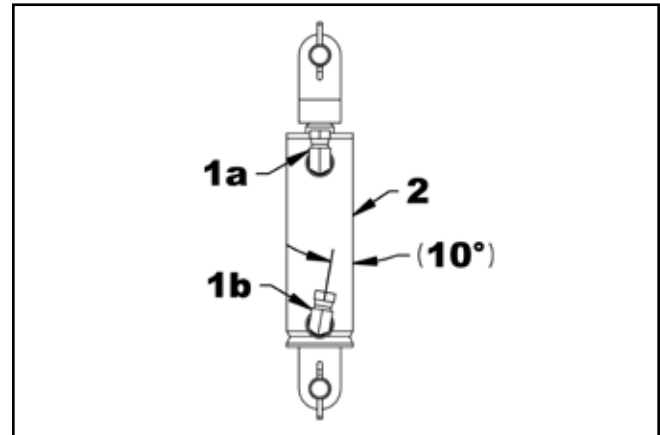

Figure 31. Orient Fittings
3. Figure 31: Using thread sealant, install a 90° 3/8" NPT male x 1/4" NPT swivel female elbow (1a) on the port of the cylinder rod side, pointing upwards and parallel to the cylinder (2). Install a 90° 3/8" NPT male x 1/4" NPT swivel female (1b) on the port of the cylinder base at an angle of 10° to the cylinder (2).